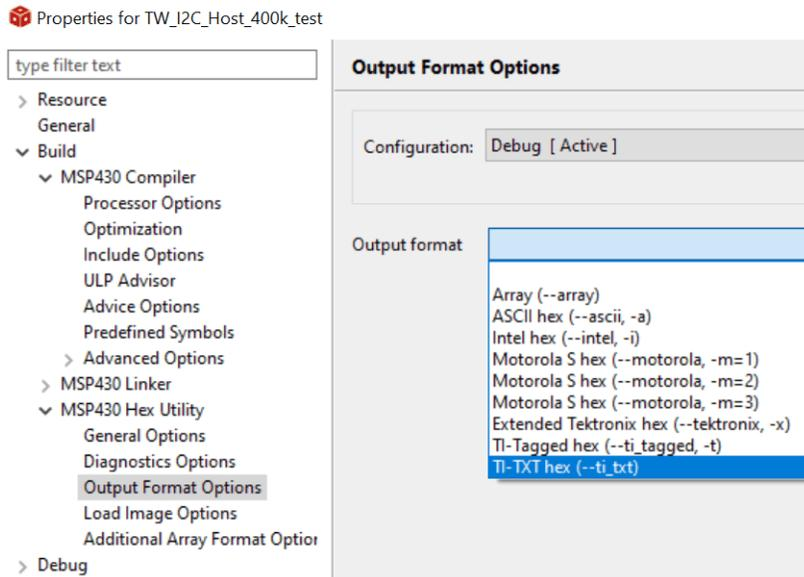

Figure 4-5. Generate TI-TXT Hex File in CCS
- Import the application code(here can use the demo `bsl_software_invoke_app_demo_uart`) into CCS and generate the target device firmware in TI-TXT hex format (see Figure 4-5).